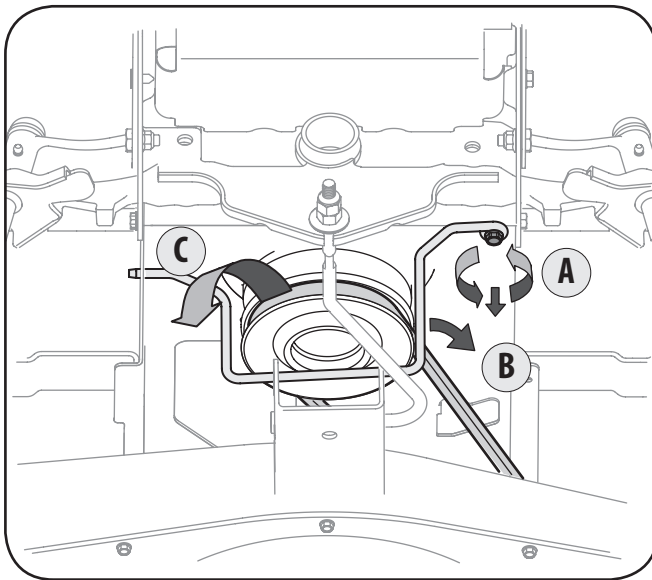

Figure 7-1
3. Remove the belt-keeper rod, from around the tractor's engine pulley, by removing the self-tapping screw (A) that secures it. See Fig. 7-1.
4. Remove the belt (C) from around the tractor's engine pulley. See Fig. 7-1.